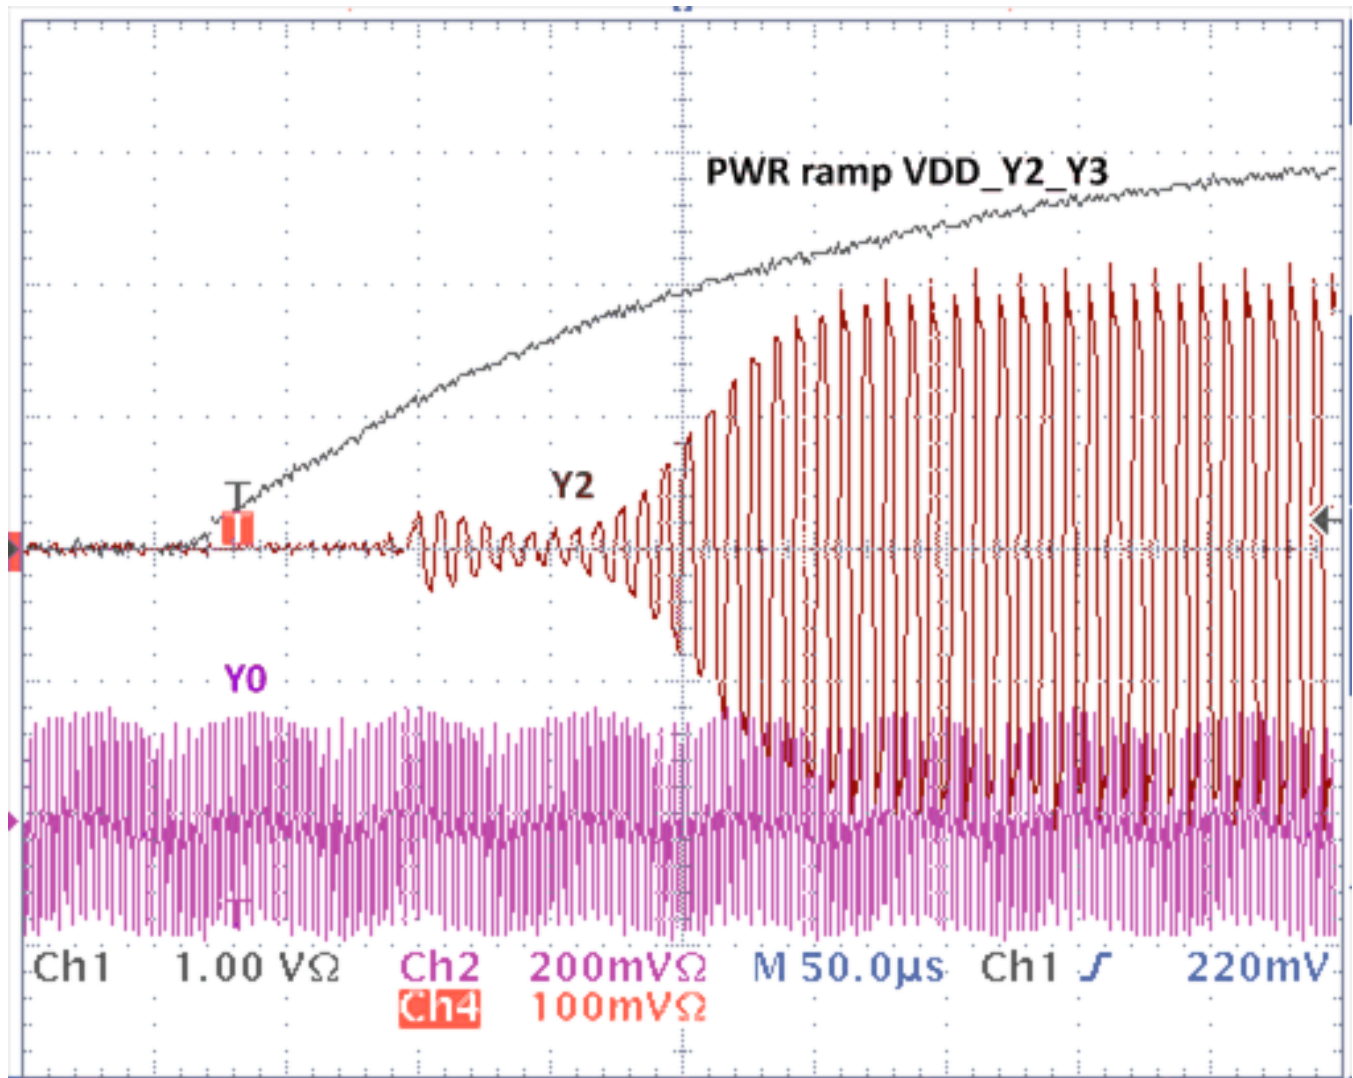

Figure 49. Sequencing the Output Turn-on Through Sequencing the Output Supplies. Output Y2 Powers Up While Output Y0 is Already Running.
2. **Output Power supply domain control:** An even easier scheme might be to connect the clock output power supply VDD_Yx to the corresponding DSP input clock supply domain. In this case, the CDCM6208V1F output will remain disabled until the DSP rails ramps up as well. Figure 49 shows the turn-on behavior.